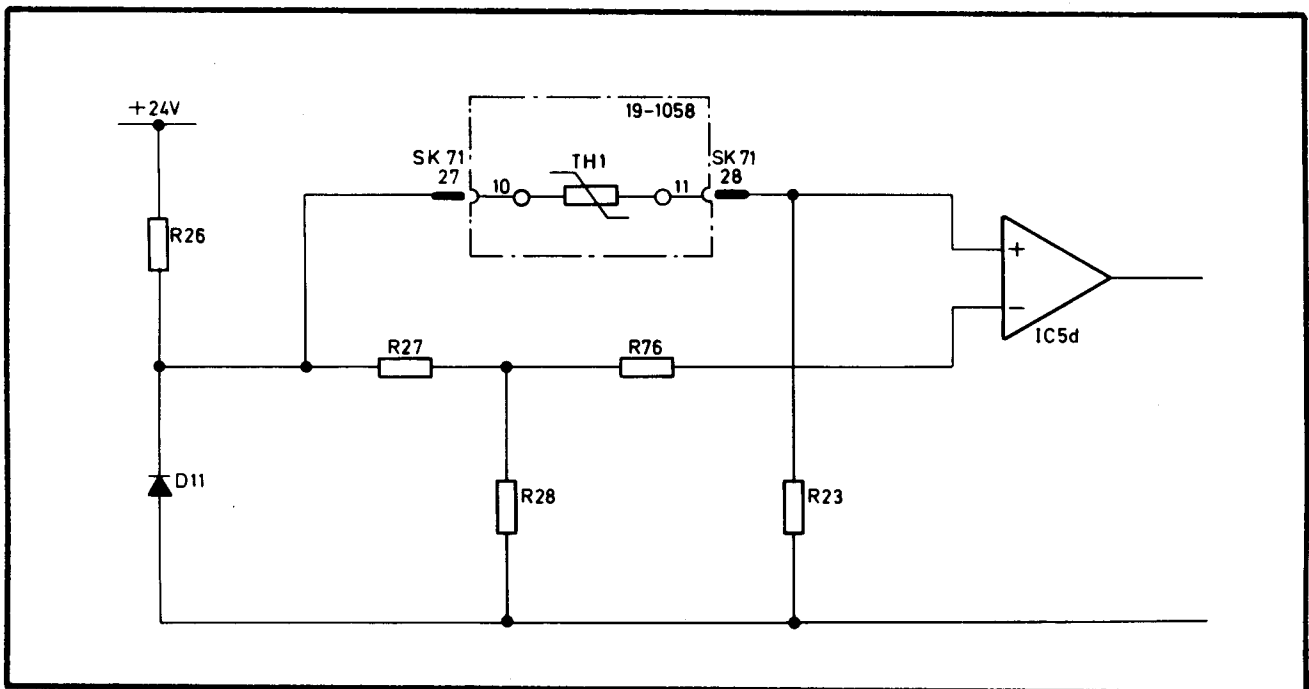

Fig. 6.13 Temperature-Sensing Circuit
6.5.13.4.1 The temperature-sensing circuit is shown in Fig. 6.13. The comparator, IC5d, compares the voltage from the R27/R28 junction with that from the TH1/R23 junction. The thermistor is mounted close to the series regulators. If the voltage at IC5d/12 falls below that at IC5d/13 the logic '0' at IC5d/14 forms the OVTEMP interrupt to the microprocessor.